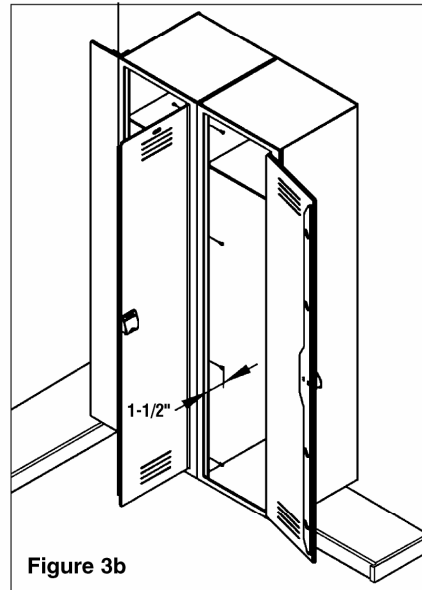

Figure 3b
*NOTE: Standard locker is shown in Figure 3b.
1. Temporarily clamp the lockers together at the top and bottom. Drill four 9/32" holes through both lockers as shown in Figure 3b. The holes should be located 1-1/2" from the front of the locker and evenly spaced, top to bottom. Fasten lockers to each other using the #10-24 x 3/8" male and #10-24 x 3/4" female sex bolts provided.